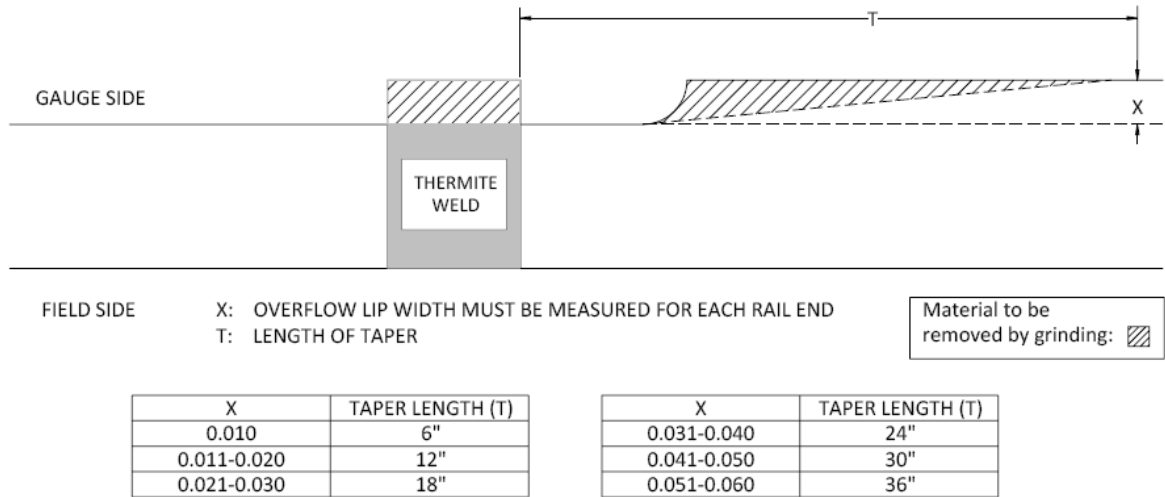

Fig.29.10
- f. Measure the amount of overflow with a taper gauge or tape measure and determine the length of taper required from the chart in Figure 29.10.
- The flow (x) shall taper back the distance specified in Figure 29.10, up to a maximum of three (3) feet; and